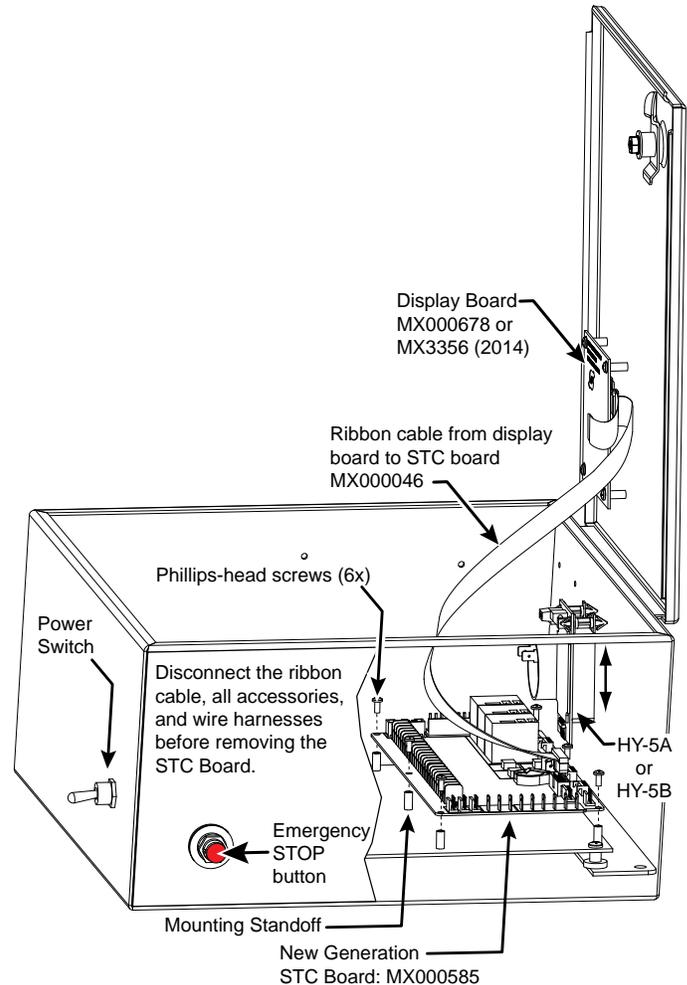

Figure 3. Control Box - Cut-away view of the SDC Board in a SwingSmart DC Operator
2. Turn OFF power to the Control Box. See Figure 3.
See Figure 3.